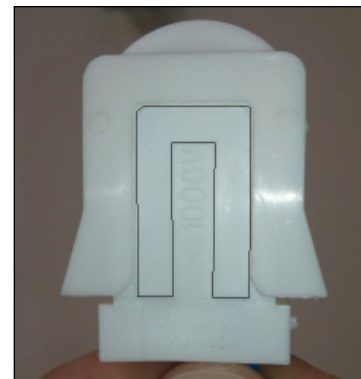

Fig. 8 Positive engagement
3. Push and snap the new T-8 lamp into place on the lamp holder. When the T-8 is properly seated, the lamp button - which secures the T-8 to the lamp holder - will be clearly visible through the lamp button hole. The cap should be pushed all the way down (Fig. 8) for positive engagement indicator. **Be sure that the T-8 light caps and holders are still positively engaged. During shipping it is possible for these to loosen.**